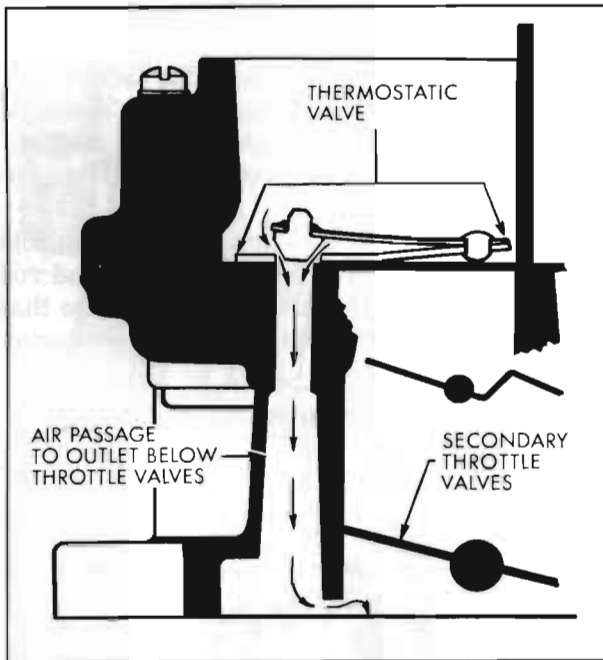

Figure 3-43—Thermostatic Valve Assembly
To compensate for loss of engine RPM while idling under very hot operating conditions, a thermostatic valve assembly is installed in the web between the right and left secondary venturi. When the temperature rises beyond a certain point, the calibrated thermostatic spring opens the valve. This allows additional air to flow through a special passage to an outlet below the secondary throttle valves. At normal operating temperatures, the valve should be closed. The thermostatic valve cannot be adjusted or repaired; therefore, a faulty valve must be replaced. See figure 3-43.
11. Remove thermostatic valve and gasket. See Figure 3-43.
3. Install thermostatic valve using new gasket. See Figure 3-43.